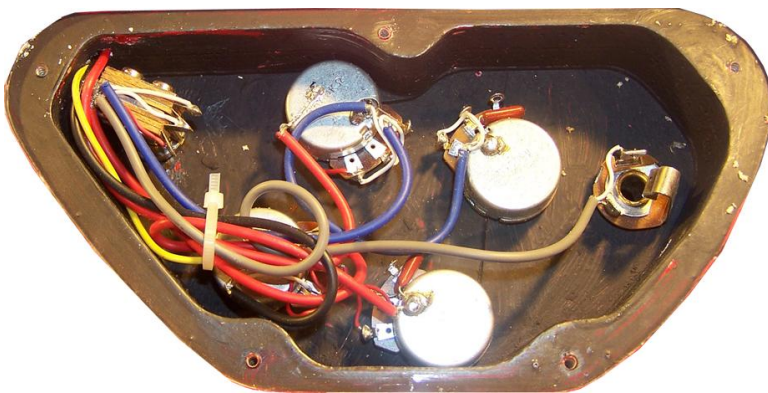

Fig.1 Control Cavity
**Step 2.** With the Phillips screwdriver remove the two cavity covers on the back of your guitar and place the screws in a small bowl so they will not get lost. You should see something similar to fig. 1.